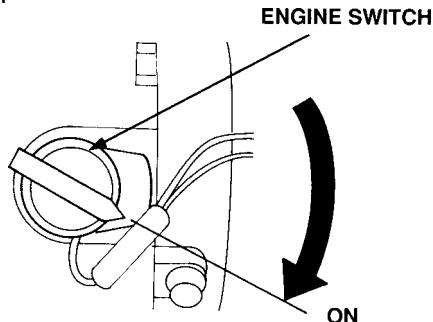

Figure 10. Engine ON/OFF Switch (ON Position)
5. Place the **engine ON/OFF switch** (Figure 10) in the "**ON**" position.